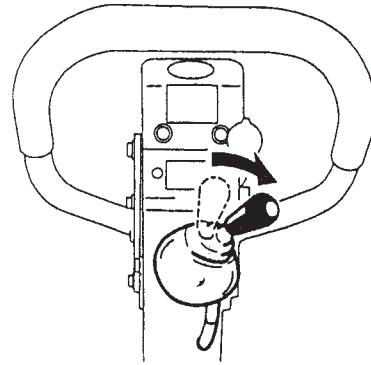

Figure 14. Throttle Lever (Stop)
2. Turn the **throttle lever** to the **STOP** position (Figure 16) to stop the engine. In a motor start, return the key switch to the **STOP** position (Figure 14) as soon as the engine stops.
1. Move the throttle lever quickly to the **STOP** position (Figure 14).